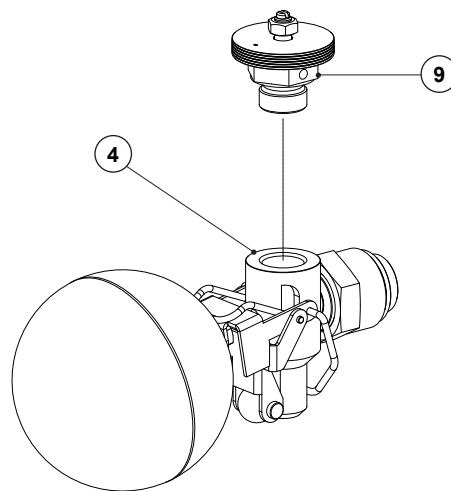

Fig. 7
1. Undo the bolts (10) gradually in a crisscross pattern and separate the cover (2) from the body (1).
2. Remove the body gasket (3) and clean surfaces thoroughly, leaving no remaining graphite leftovers.
3. Unscrew the seat nut (4A), remove gasket (5) and mechanism assembly (4, 6, 7, 8, 9).
5. If only the automatic air vent (9) needs replacing, secure the seat (4) tightly in a vise with soft jaws (secure by the seat body and not the seat nut) and unscrew the automatic air vent (9) – see Fig. 7.
7. Apply a suitable silicone sealant to the thread of the new automatic air vent (9), and tighten with the recommended torque – see section 9.6 – Tightening torques.
8. Replace gasket (5) if necessary and screw the seat nut (4A) loosely onto the body (1).
9. Secure the seat (4) with the automatic air vent (9) pointing upwards and tighten the seat nut (4A) with the recommended torque – see section 9.6 – Tightening torques.